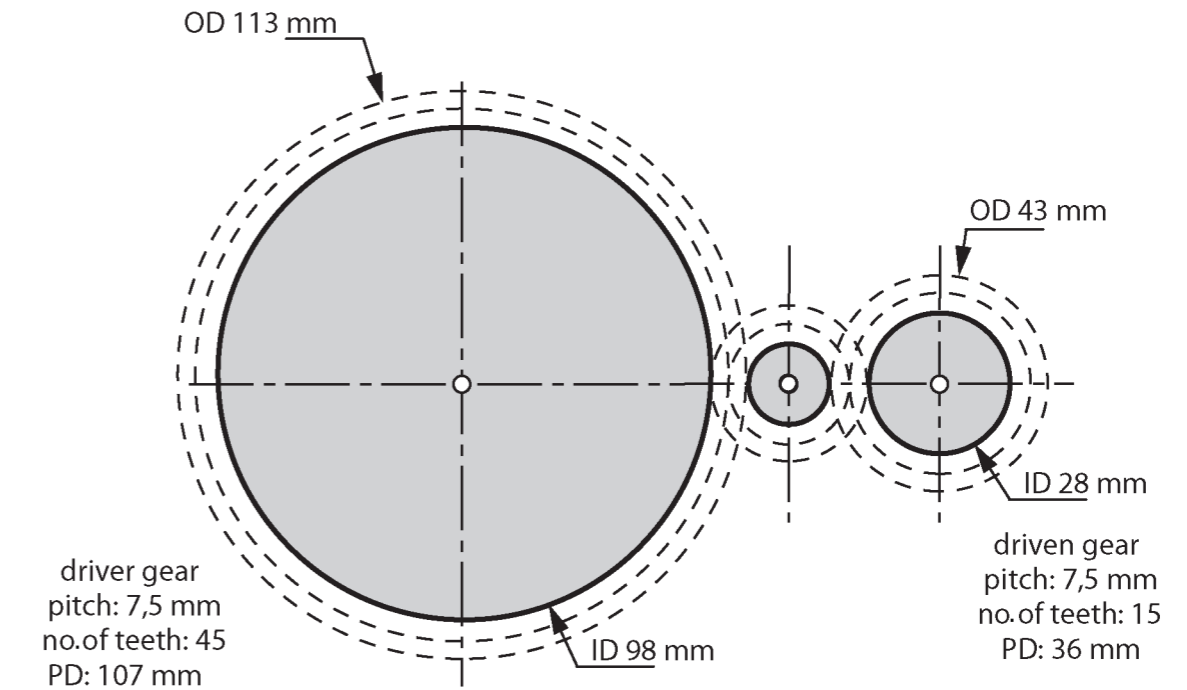

Figure 12
1. Add an idler to this gear system as shown in Figure 12. Now draw this new system on grid paper.
Learners' drawings should look like Figure 12.